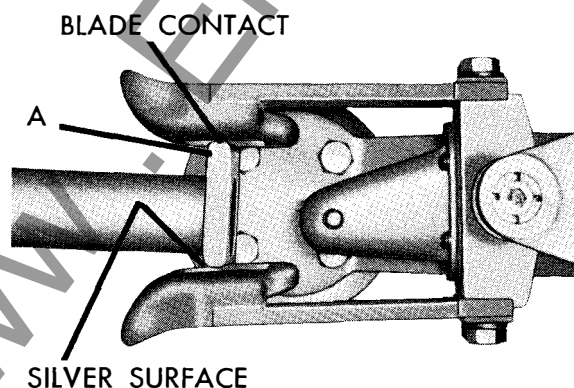

Fig. 13 Showing blade in closed position.
To complete the changeover of current carrying parts it is necessary to loosen the blade clamping bolts at the swivel end and rotate the blade 180 degrees about its longitudinal axis. This places the blade moving contact so the longer side is moving to the closed position, see (A), Figure 13, page 11.
and resilience. Upon closing a switch, the copper blade contact of the blade slides into the silver-surfaced jaw contacts, deflecting the beryllium cobalt copper jaw members apart and wiping into engagement, thus accomplishing a high pressure line contact, see Fig. 13. Experience has proven silver-to-copper contact surfaces best for wear resistance.